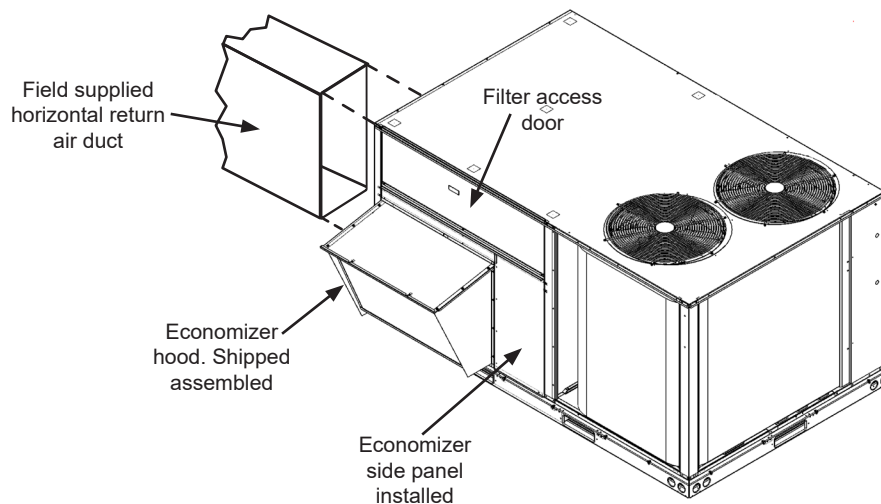

Figure 6 - Installed Economizer
8. Economizer hood is shipped assembled. Install over economizer and screw in place on both sides and top flanges. See Fig 6.
9. Install field supplied horizontal return duct per unit instructions. Caulk or gasket seam to ensure water tight seal. See Fig. 6.
3. Reinstall unit's filter access door above economizer (Fig. 6).